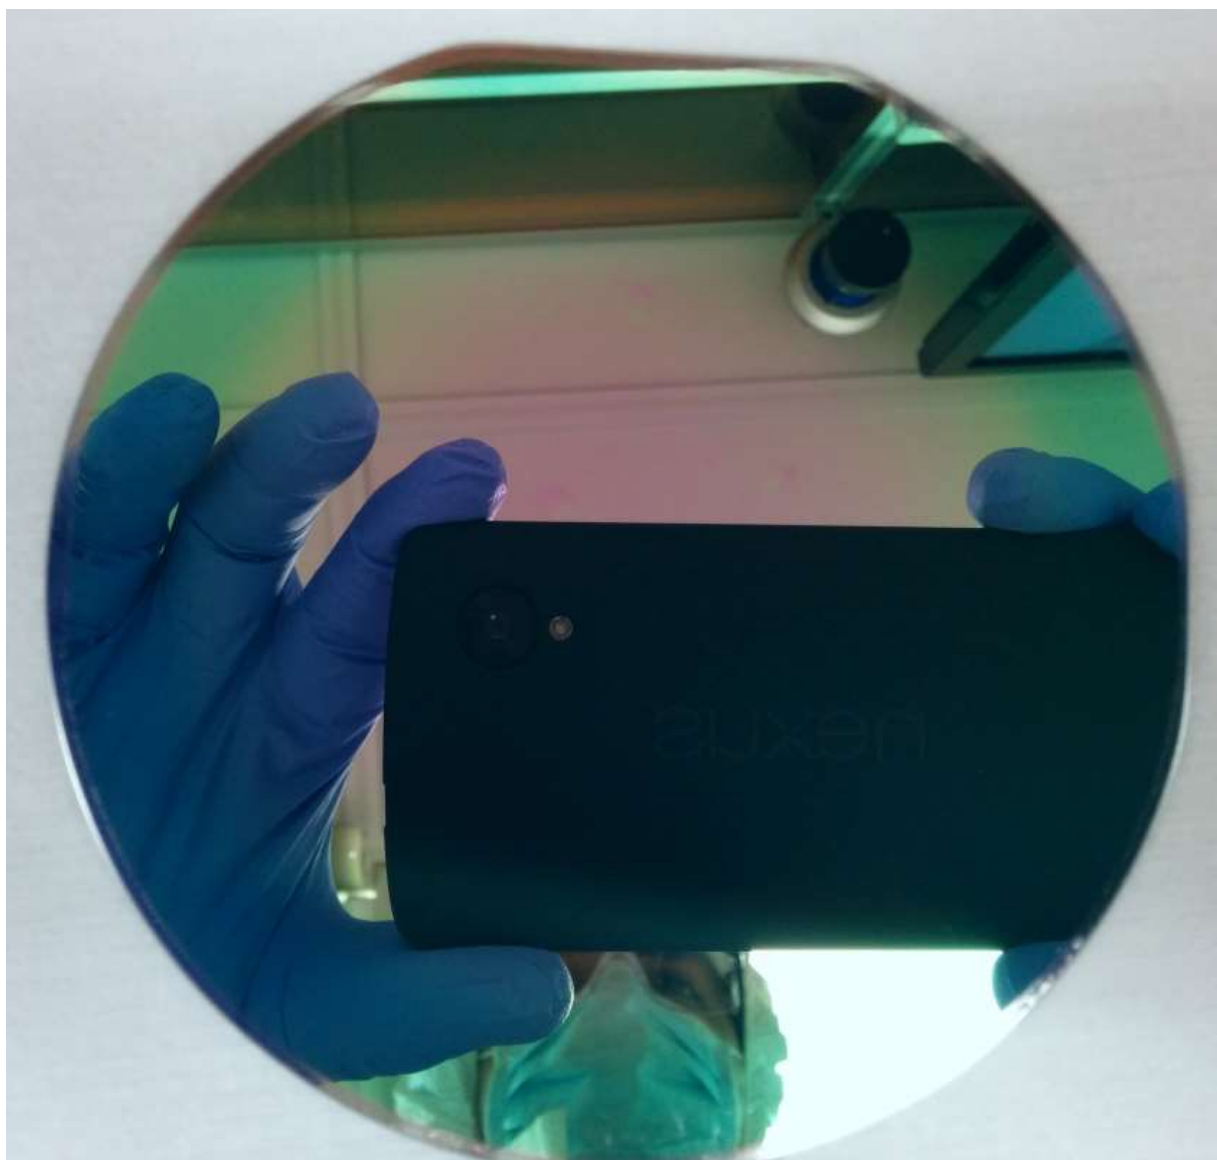

Figure 1 A good-quality, five-layer sol-gel PZT film
**9.2** PZT is “cloudy.” This can be caused by contamination, or by bubbles, and is indicative of a poor-quality PZT film. A good-quality film should be mirror-like in appearance (see Figure 1).